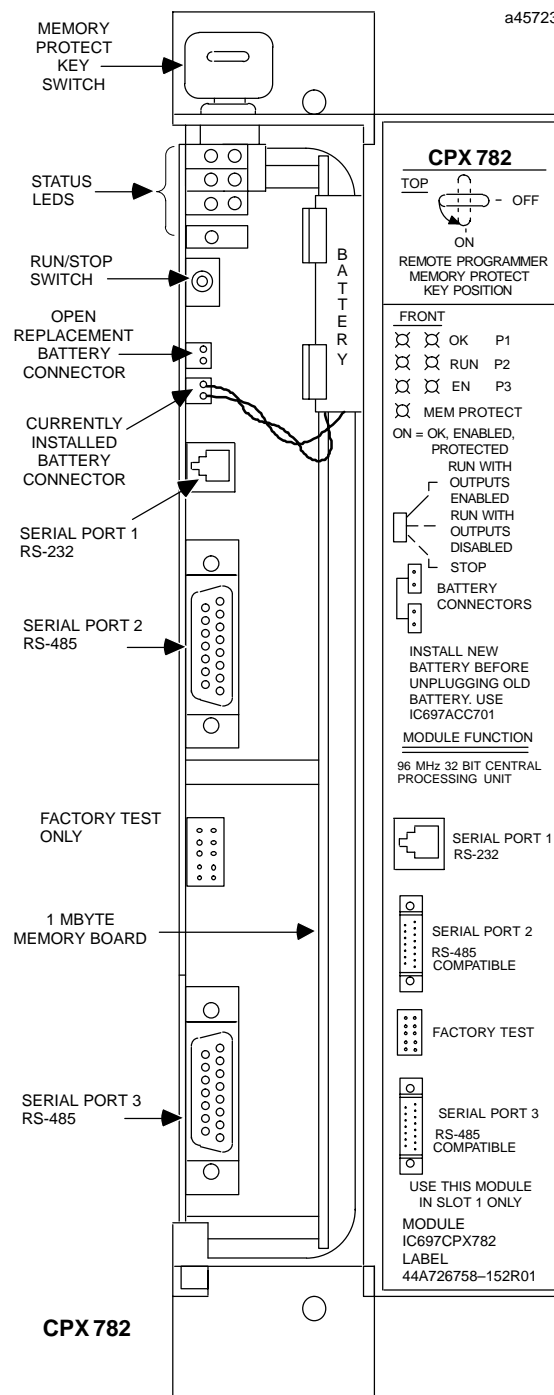

Figure 2. CPX 782 - Location of Major Features
- Connect the battery to either of the battery connectors on the module (see Figure 2).